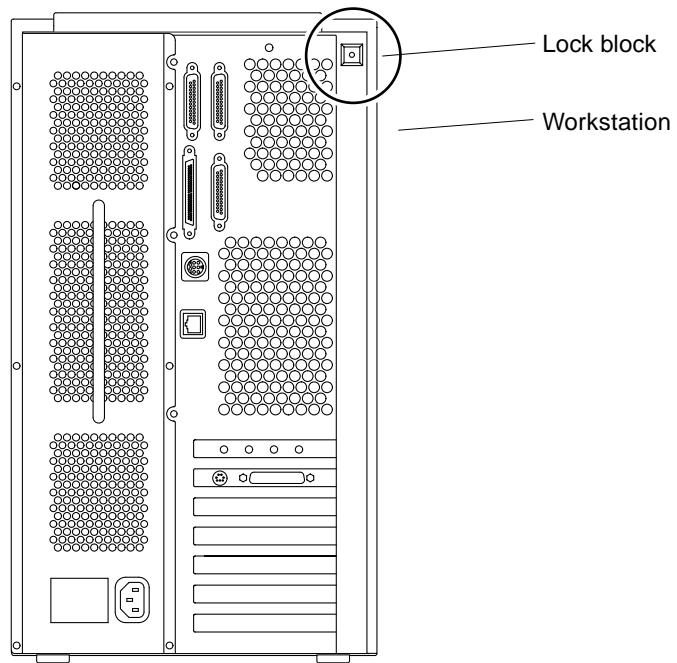

FIGURE 2-2 Lock Block Location
7. Remove the lock block, if installed (FIGURE 2-2).
5. Replace the lock block (FIGURE 2-2).